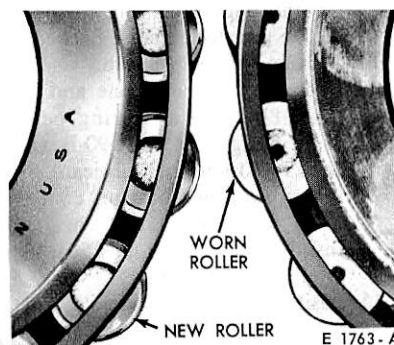

FIG. 7 Roller Bearing End Wear
10. Inspect the bearing races and rollers for pitting, galling, and erratic wear patterns. Inspect the rollers for end wear (Fig. 7).